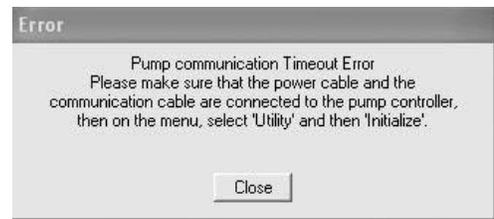

Figure 7: Initialization error message
2. If the error message in **Figure 7** appears, close the window, then check to make sure that all the connectors are completely plugged in. Repeat Step 1.